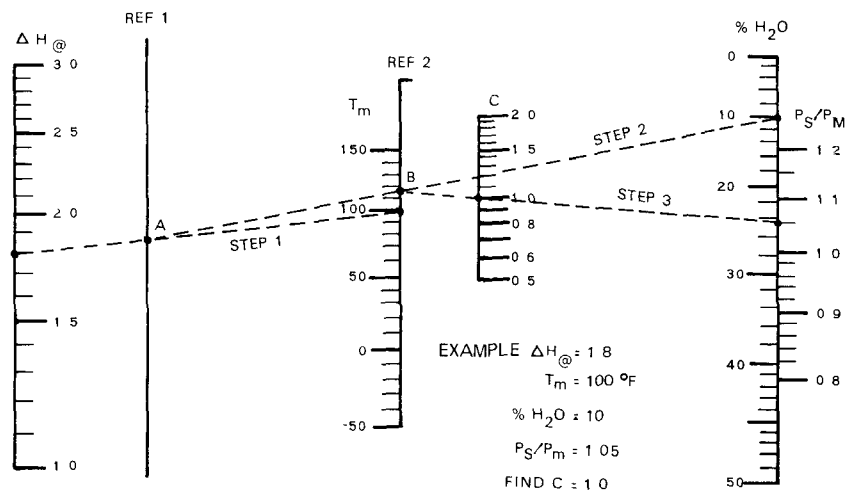
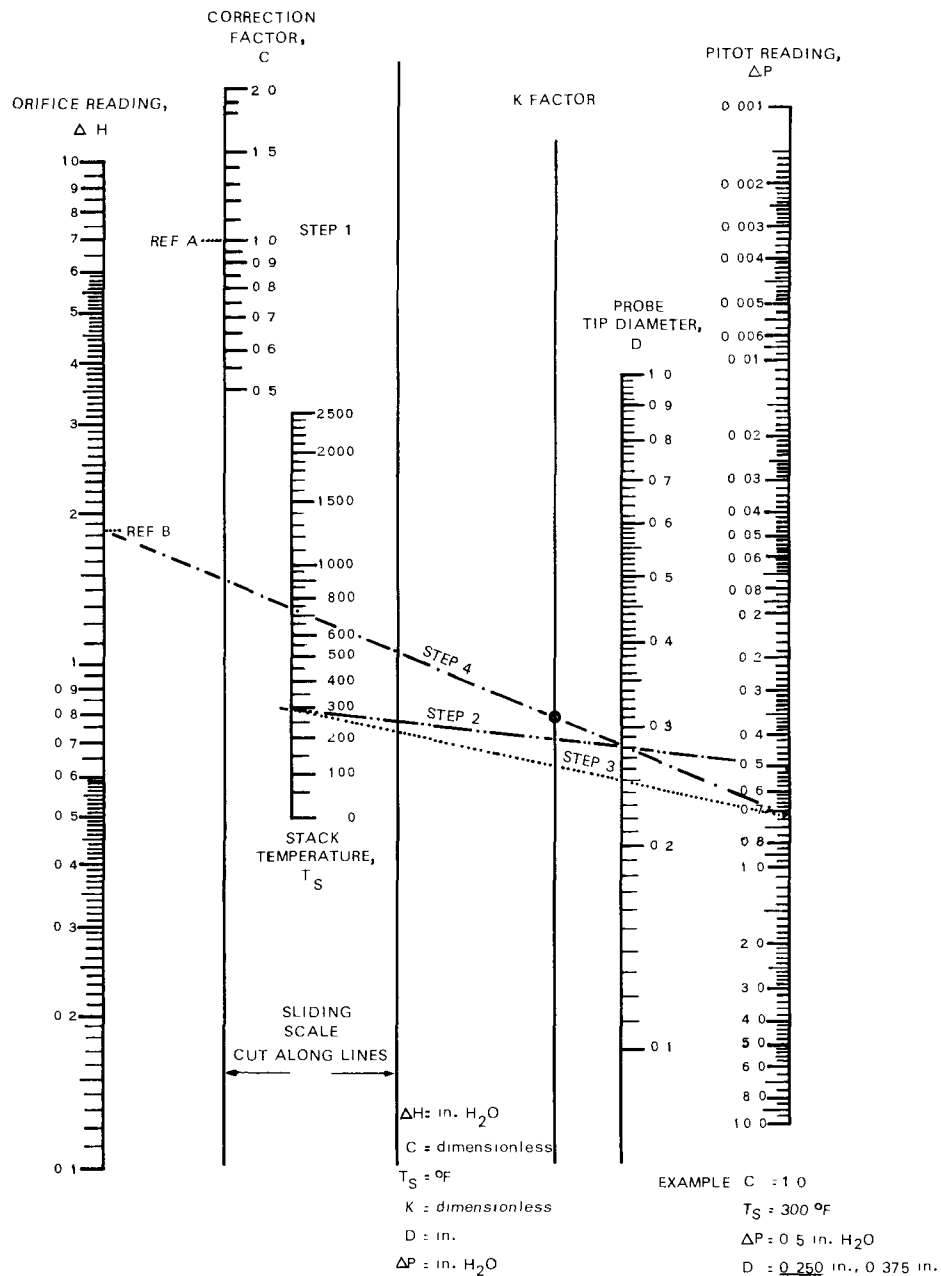

Figure 22. Nomograph for correction factor C.
Figure 23. Use of the nomograph in selecting nozzle size and setting K factor.
The correction factor nomograph (Figure 22) and the operating nomograph (Figure 23) have been designed for use with the sampling train as aids for rapid isokinetic sampling rate adjustments and for selection of a convenient nozzle size. To determine the correction factor,  $C$ , on the nomograph, the following information is first required:
To obtain correction factor, C (Figure 22):
1. C factor. This is obtained from the correction-factor nomograph (Figure 22).
To select the nozzle size and to set the K-factor pivot point, use the following procedure (Figure 23):